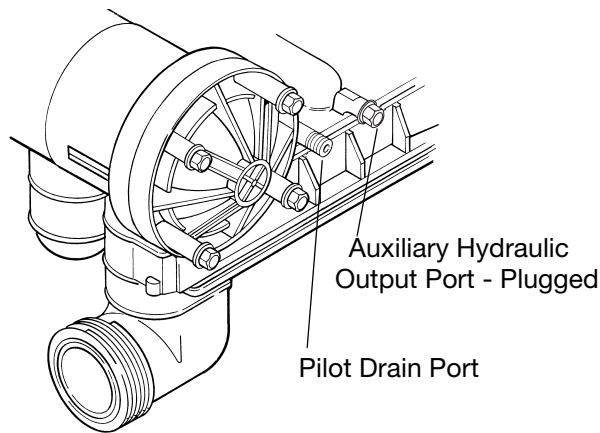

Figure 3.2
**Pilot Drain -** During regeneration, a small amount of water (200 ml or 1 cup) is discharged from the 1/4-inch (6.3-mm) tube fitting on the back of the valve marked DRAIN (Figure 3.2). To prevent this water from being discharged to the floor, plumb this connection to a non-pressurized drain or to the brine tank. **Do not plug or apply back pressure to the pilot drain at any time.**